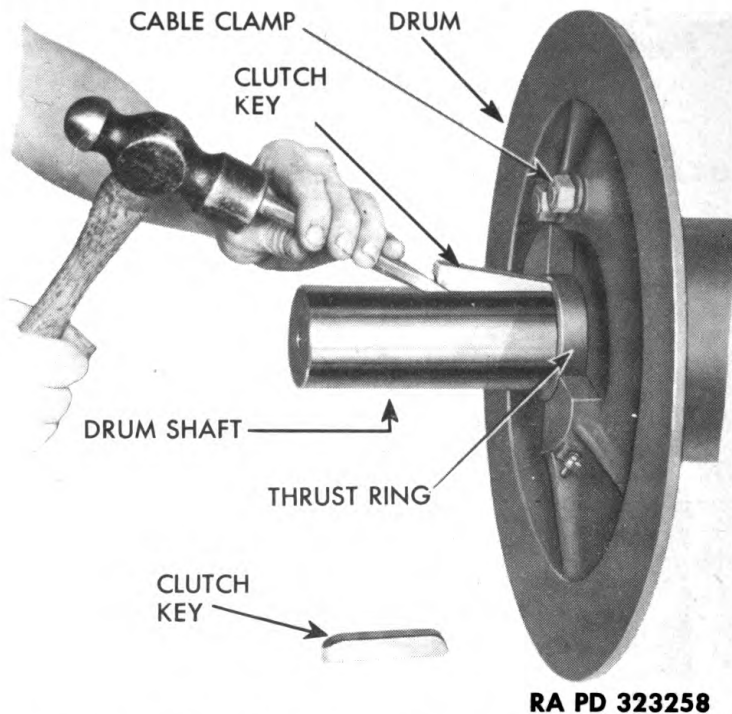

Figure 265 — Removing Sliding Clutch Key
e. **Remove Drum.** NOTE: Cable should have been removed from drum while winch was still on vehicle. Refer to TM 9-786. Remove two clutch keys from shaft, using a cold chisel (fig. 265). Slide thrust ring and drum off shaft.
g. **Install Drum** (fig. 265). Slide winch drum on shaft with clutch jaw side of drum away from worm gear case. Place thrust ring on shaft next to drum with slotted side of ring away from drum. Install two keys into keyway in shaft.